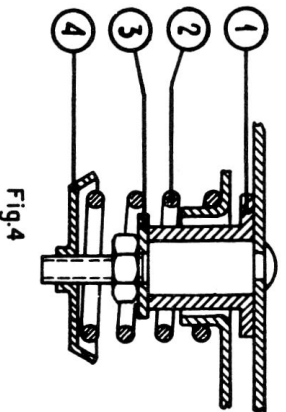

Fig.4
- a. Spring suspension of the motor plate (see fig. 4)
To avoid transmission of mechanical resonance, care must be taken that the washers (3, fig. 4) do not touch the springs.
- Fig. 4 Spring suspension of the motorplate